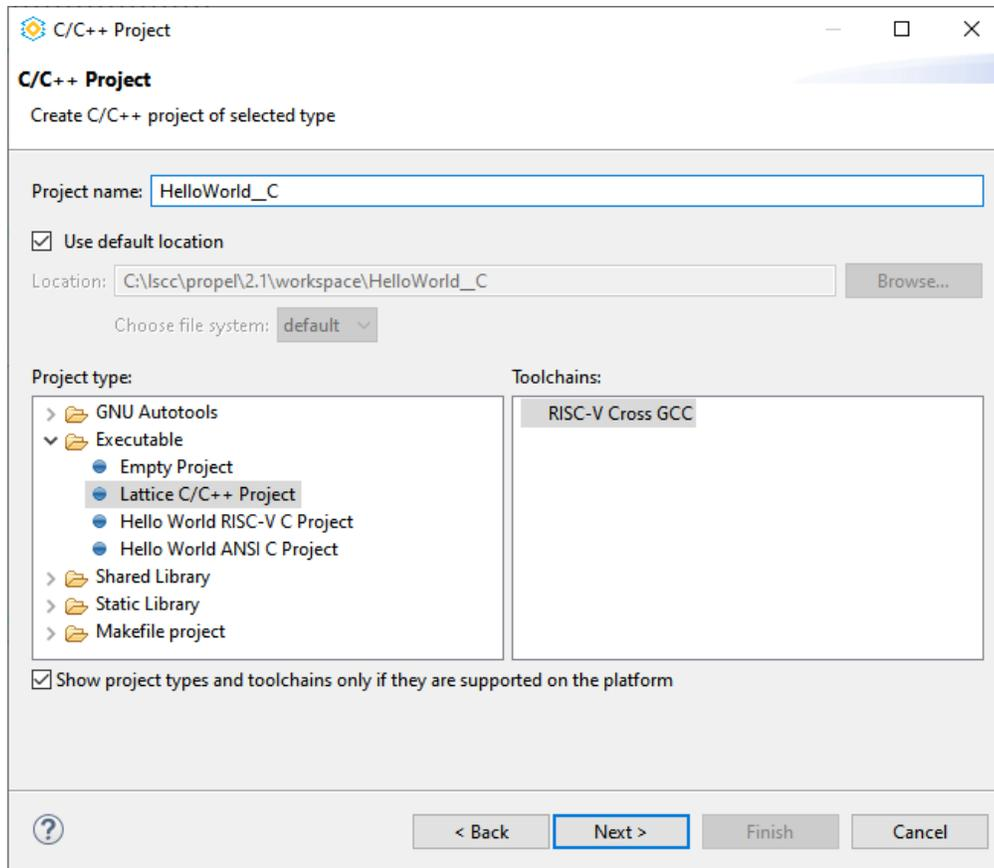

Figure 2.64. Create C/C++ Project
3. Click **Next**. The C/C++ project dialog (Figure 2.64) opens.